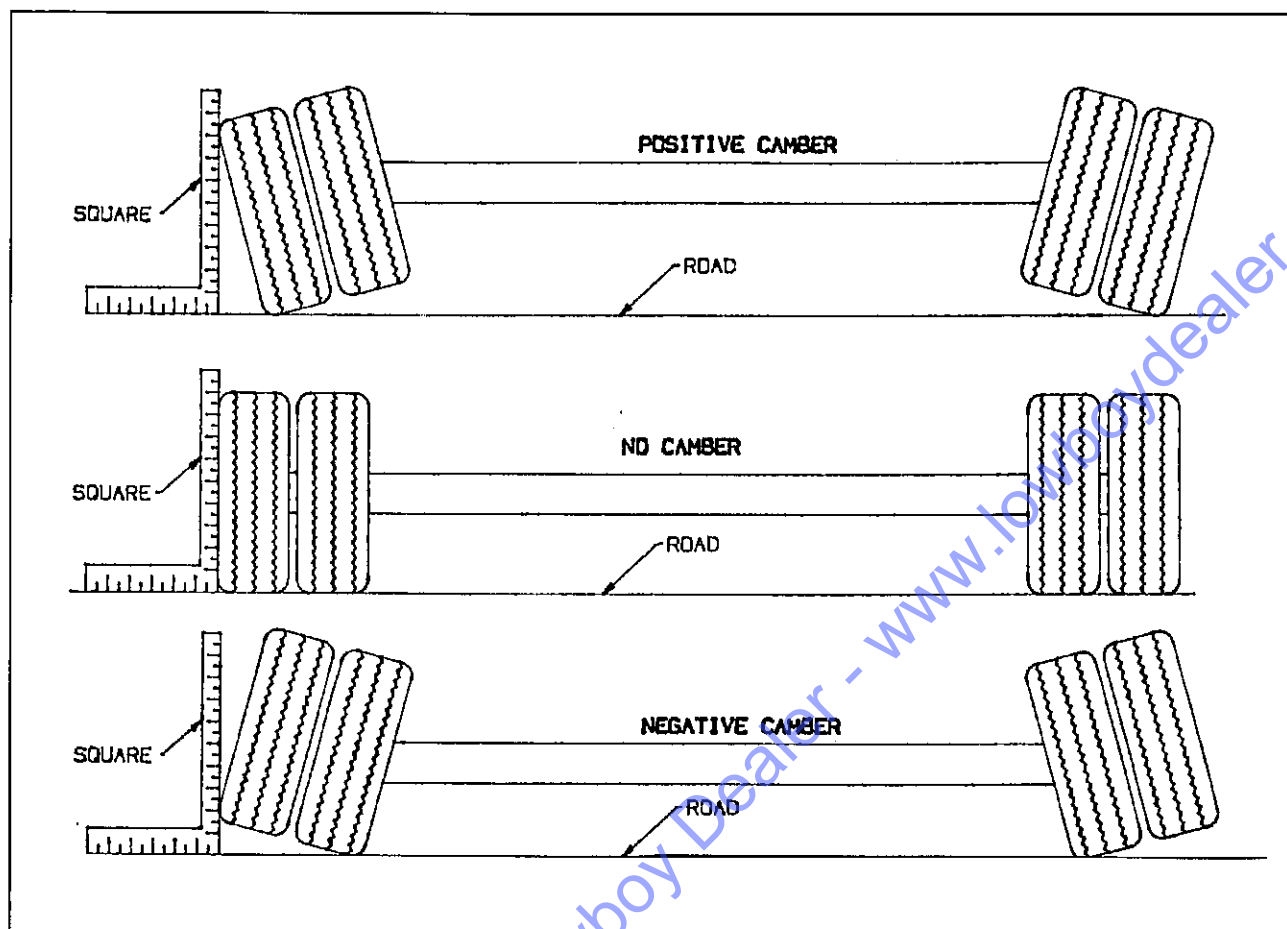

Figure 4-6 Examples of Camber
- d. Follow the same procedures as in Paragraph 4-8 b and c, except place the axle gauge above and below the axle. If gauge point gap is found, the axle has positive or negative camber. The semitrailer axle has no camber from the factory. If it is found to have positive or negative camber, axle replacement is necessary (see Figure 4-6 for examples of camber).